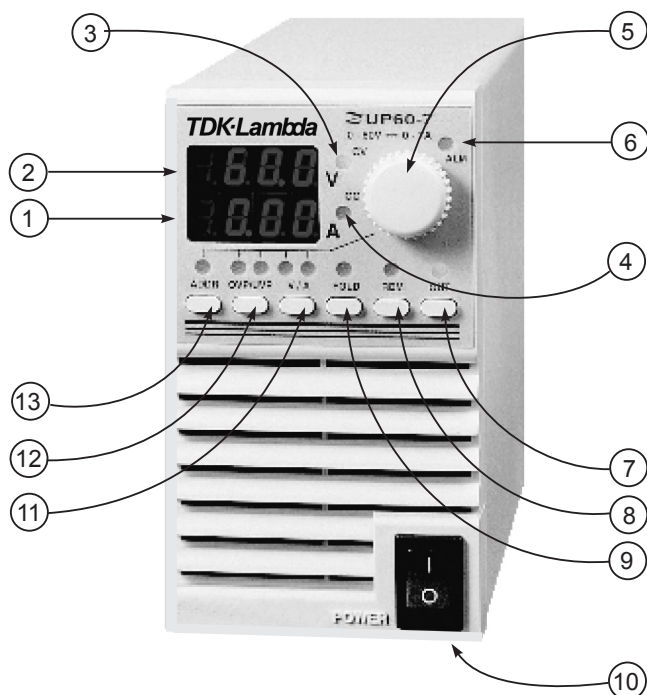

Fig. 4-1: Front panel controls and indicators
The REM LED on the front panel indicates whether the power supply is in Local or Remote mode. The extinguished LED indicates Local operation. If the LED illuminates, the REM pushbutton (fig.4-1, item 8), should be pressed to change the operating mode to Local.